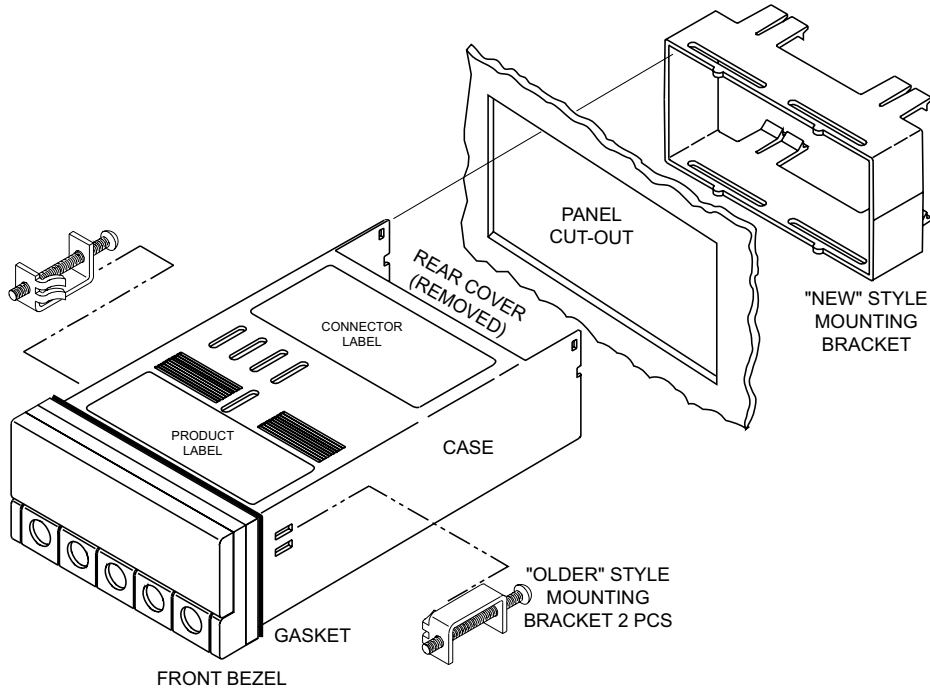
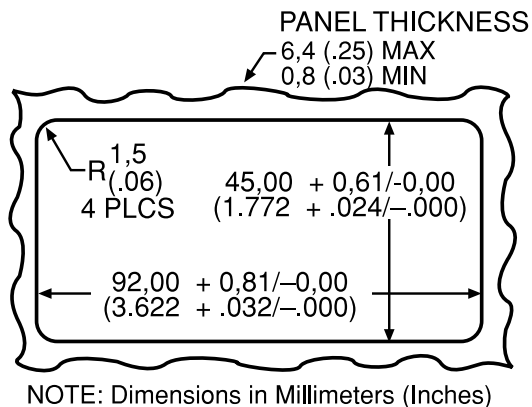

Figure 6-3. Meter - Exploded View
Figure 6-4 Panel Cutout
This label is located on top of the meter housing (refer to Figure 6-3).
1. Cut a hole in your panel, as shown in Figure 6-3. For specific dimensions refer to Figure 6-4.